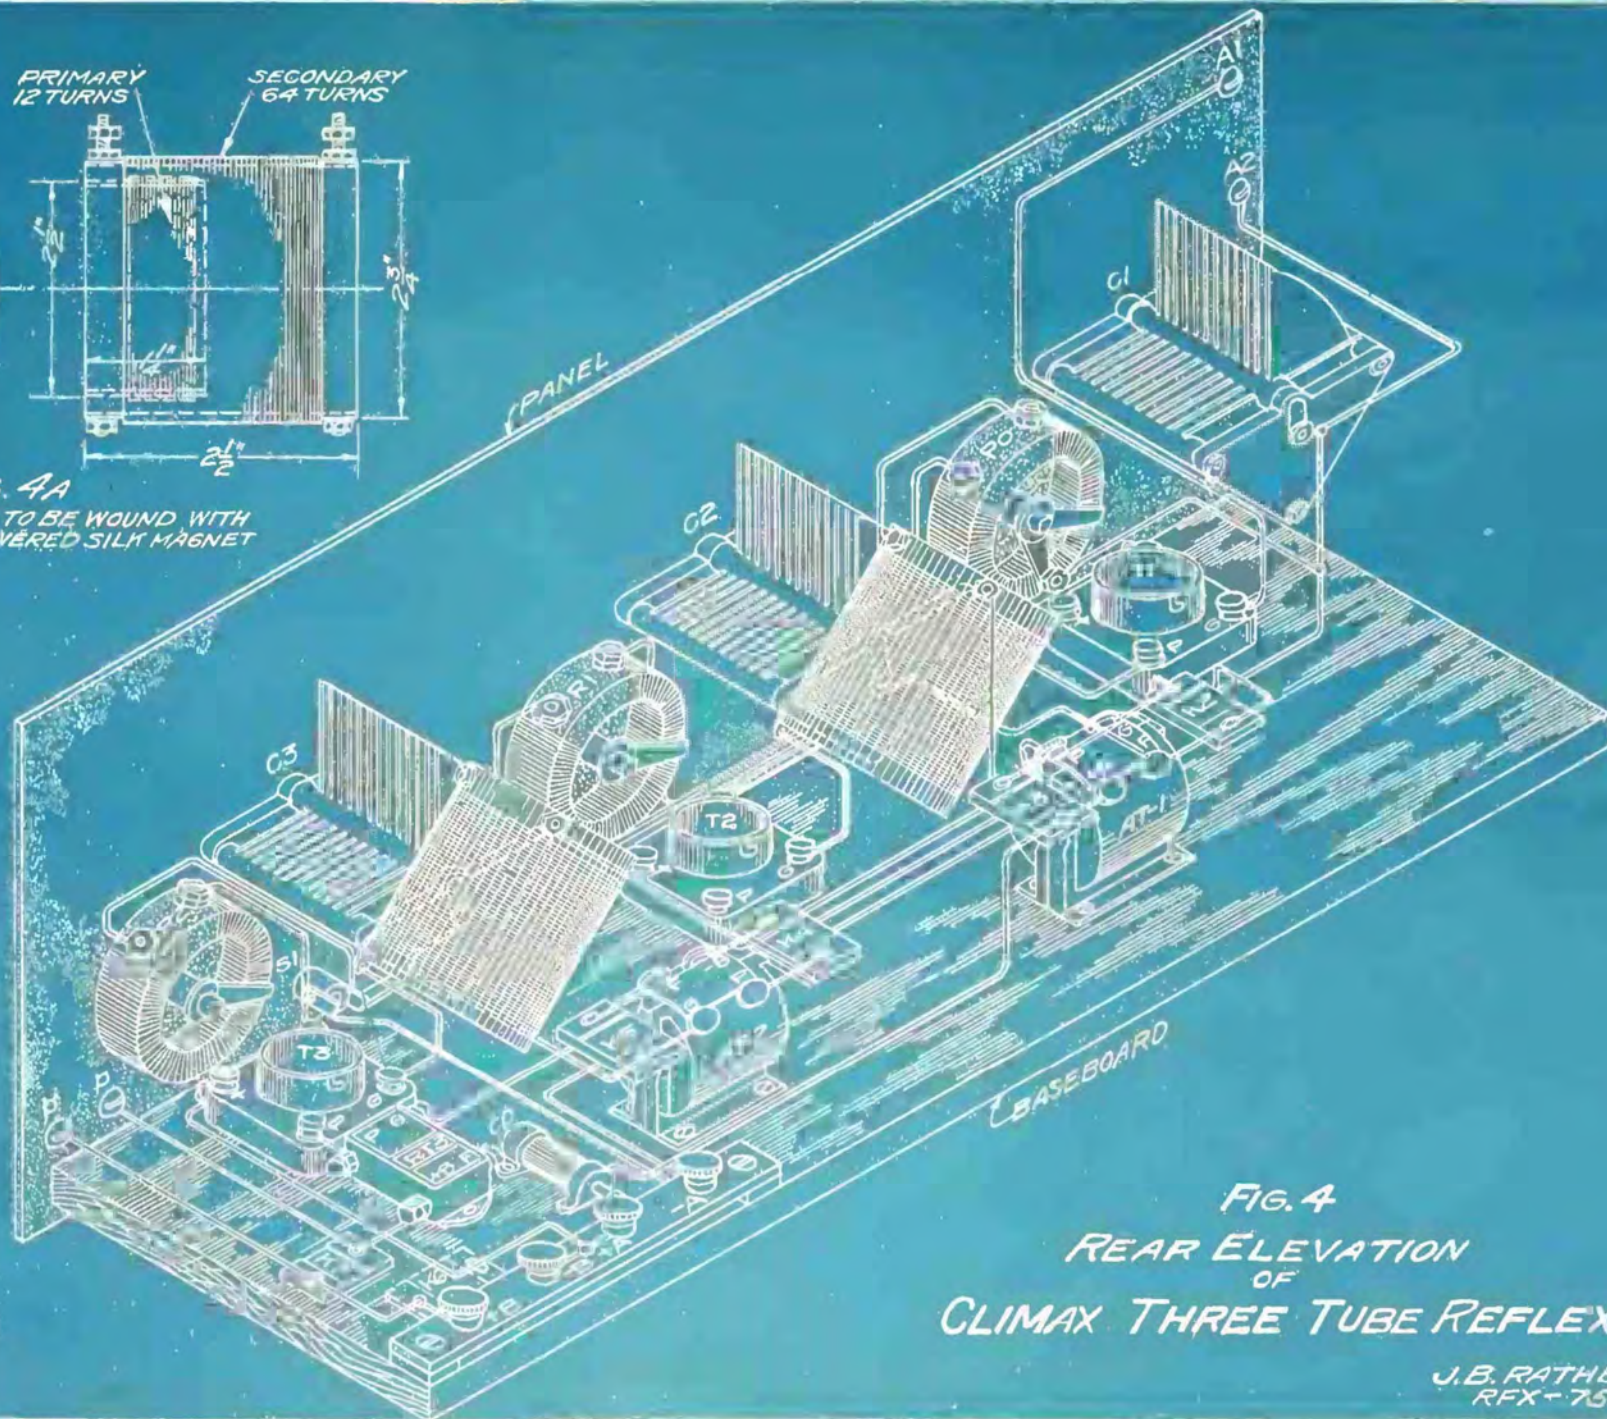

FIG. 4
**B**OTH Fig. 1 and Fig. 2 show the same circuit but in different ways. Fig. 1 is the so-called conventional circuit with standard symbols for the more experienced builder, while Fig. 2 is a picture diagram for the novice. Fig. 3 is a panel layout showing arrangement of controls and approximate spacing of the panel mounted apparatus while Fig. 4 is an isometric view made for the purpose of showing how the apparatus actually looks back of the panel. For making the actual wiring connections, however, I strongly advise the wiring in either Fig. 1 or Fig. 2 be used, as many of the wires are concealed in the isometric view.